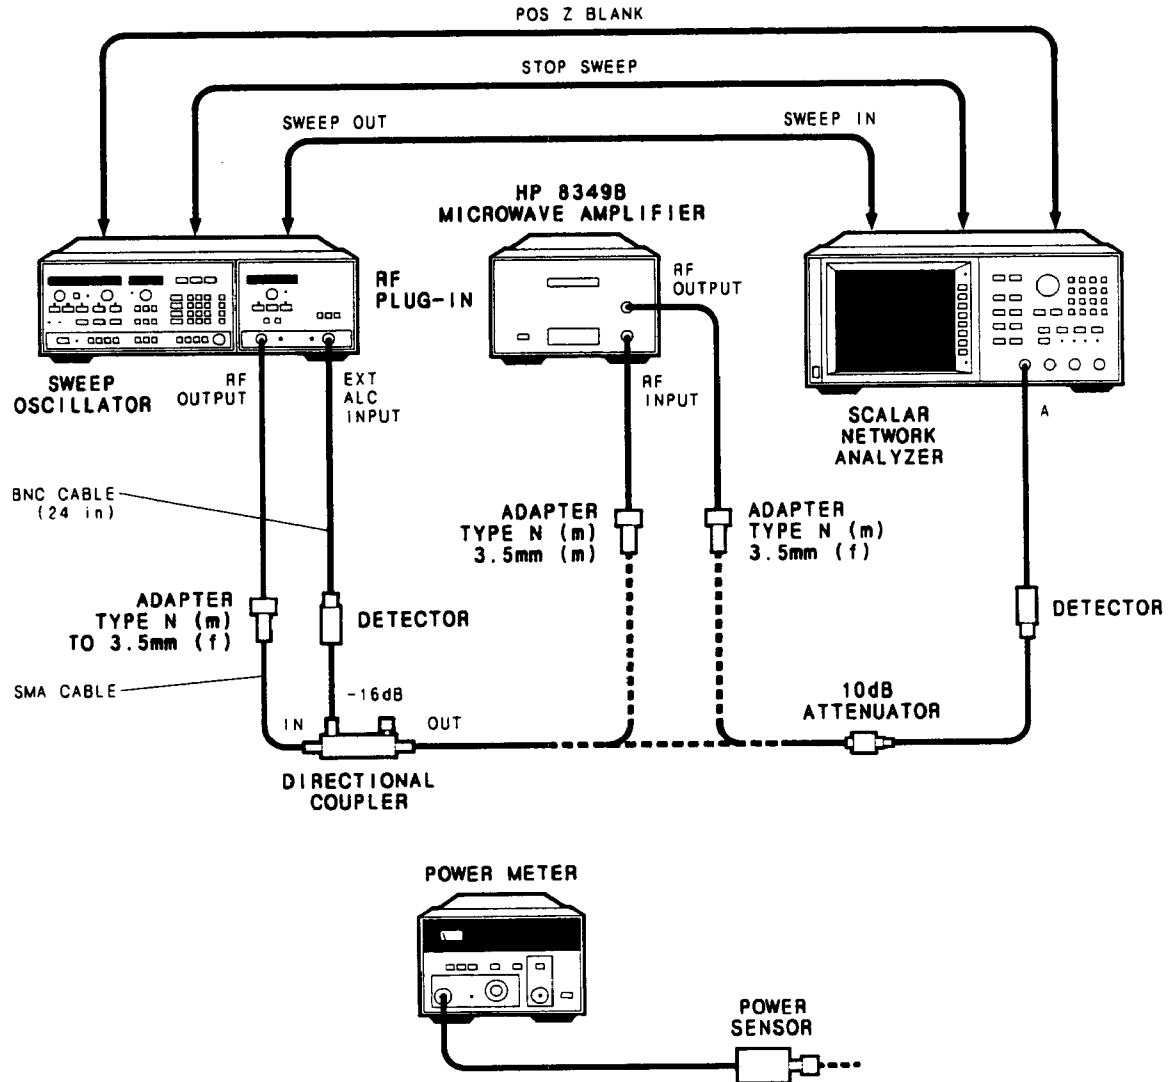

Figure 4-1. Small Signal Gain Test Setup
1. Connect the equipment as shown in Figure 4-1 with the coupler output connected to the 10 dB attenuator.
17. Reconnect the network analyzer to the output of the coupler as shown in Fig 4-1.
29. Reconnect the network analyzer to the output of the coupler as shown in Figure 4-1.